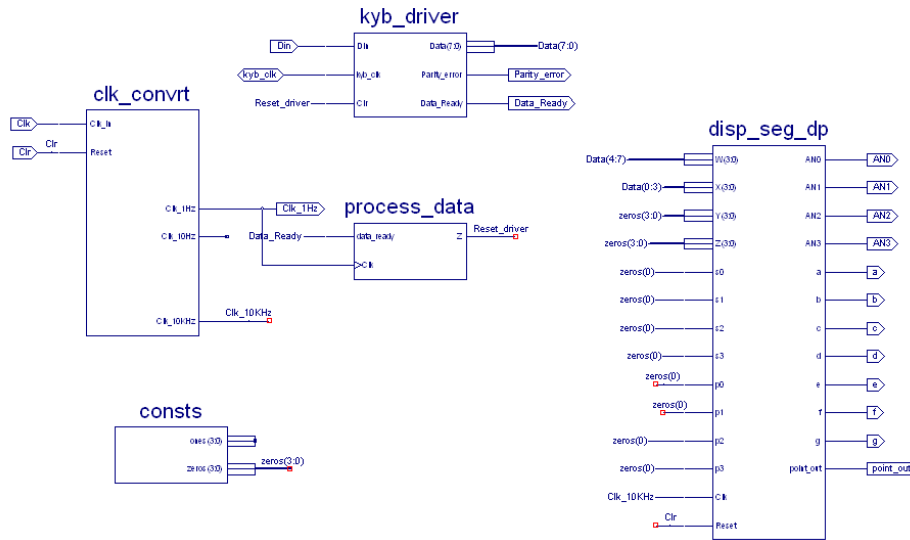

Figure 41
75. Create a new schematic and use Figure 41 as a guideline to put the system together.